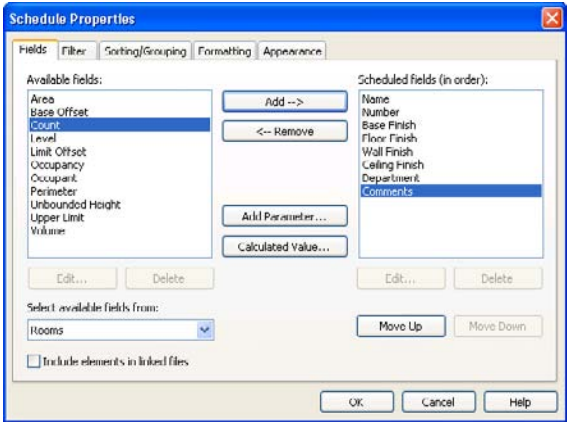

Figure 11.7
6. On the Fields tab, add the following items in order from the Available Fields section to the Scheduled Fields section, as shown in Figure 11.7. (Select the field and click the Add button, or double-click the field to add it to the Scheduled Fields section.)